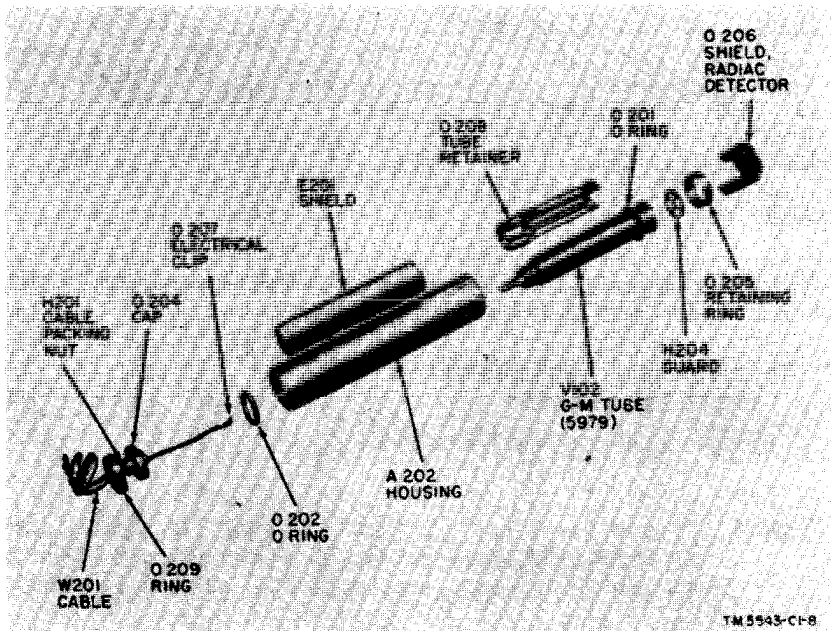

Figure 7-6.1. (Added) Radiac Detector DT-53D/PDR-27, exploded view.
Step 6. Unscrew the plug \* \* \* the "O" ring. **In Radiac Set AN/PDR-27E, unscrew the threaded ring (0 209) at the end of the probe, and then remove the cap (0 204) (fig. 7-6.1).**